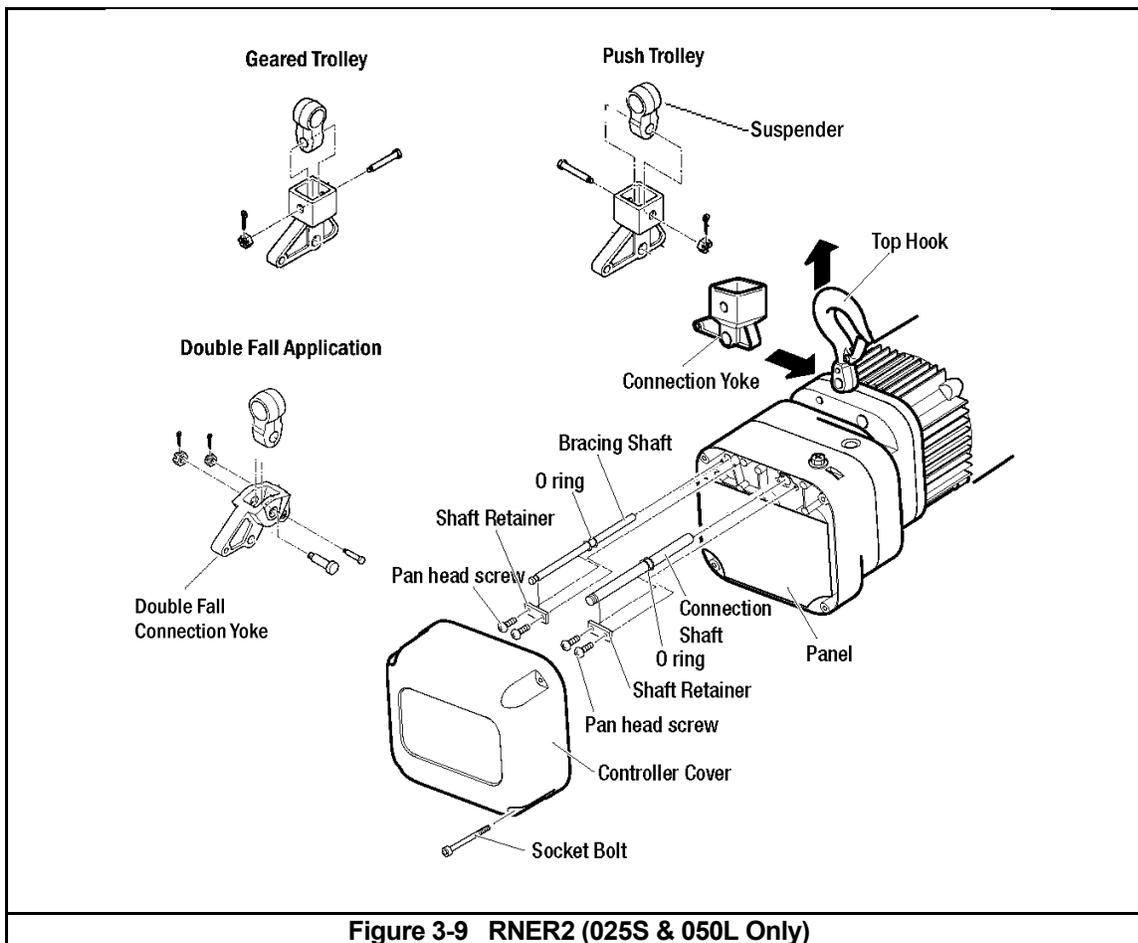

Figure 3-9 RNER2 (025S & 050L Only)
- 1) Refer to **Figure 3-9**.
- 7) Install appropriate Suspender for the application, securing it to the Connection Yoke with the Yoke Bolt, Slotted Nut, and Slit Pin. **Note: (See Figure 3-9) Double Fall applications require a Chain Pin, small Slotted Nut, and small Split Pin, in addition to the Yoke Bolt, Slotted Nut, and Split Pin.**